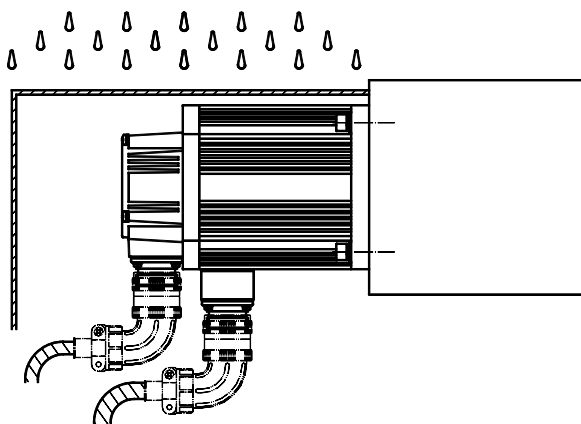

Fig. 7
9.1 The motor structure is protected based on GB 4208—2008/IEC 60529: 2001 *Case Protection Grade (IP Code)*, and IP65 grade of GB/T 4942.1—2006 *Protection Grade (IP Code) of Rotation Motor Overall Structure*. It prevents the human body from touching the dangerous parts in the motor and interference from the external substance to guarantee the motor working normally. However, most of the liquid, such as the cutting fluid and lubricant, etc is with the strong seepage force, and if the motor touches such liquid for a long time, it may cause the motor can't work normally or shorten the service life. Therefore, the proper protection measure should be taken during the motor installation and try to avoid contacting the above liquid and soaking the motor in the liquid, which is shown as figure 7.